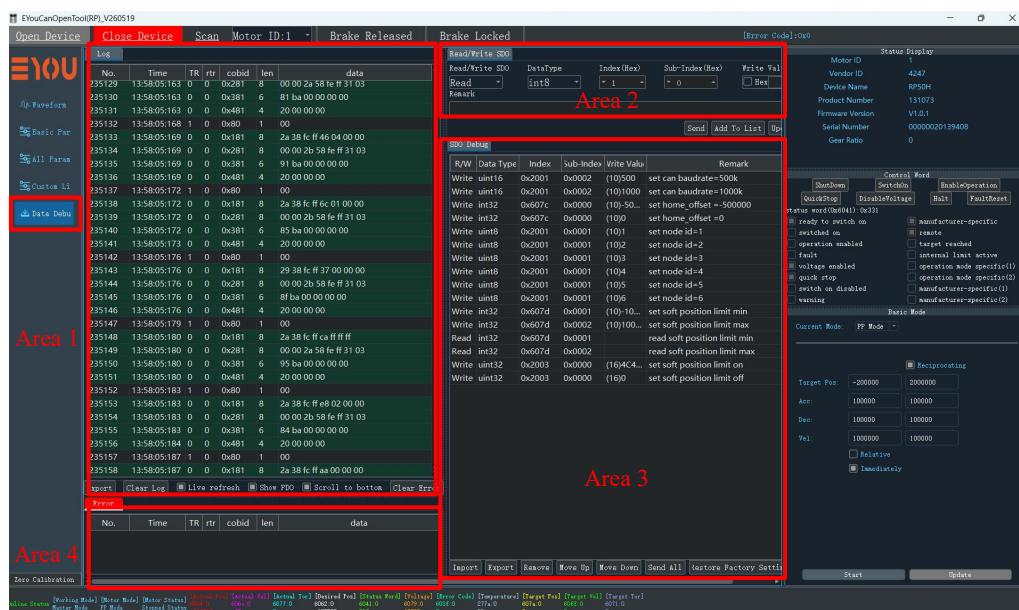

Figure 3-6 Data transmission and reception interface diagram
4) The <Custom List> interface is displayed as shown in Figure 3-6: